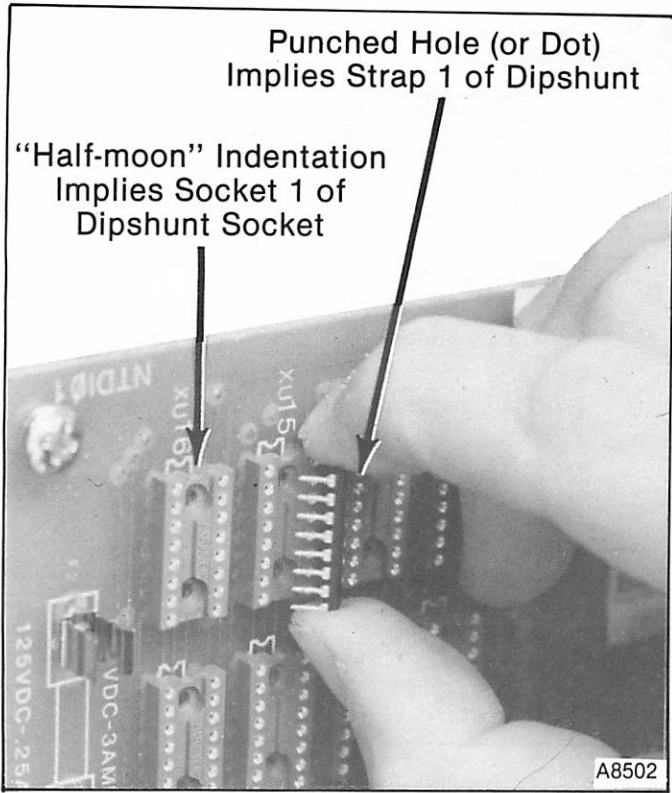

FIGURE 19 — Inserting Dipshunts.
- Mount dipshunts into dipshunt sockets. (See Figure 19.)